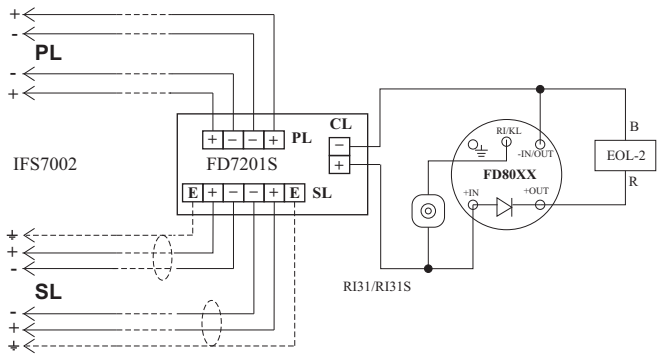

Fig.3
6. Feed the connection wires to the conventional line-monitoring module and plant the terminating component on the base of the last fire detector in the conventional line, according to the electrical connection diagram, fig. 3